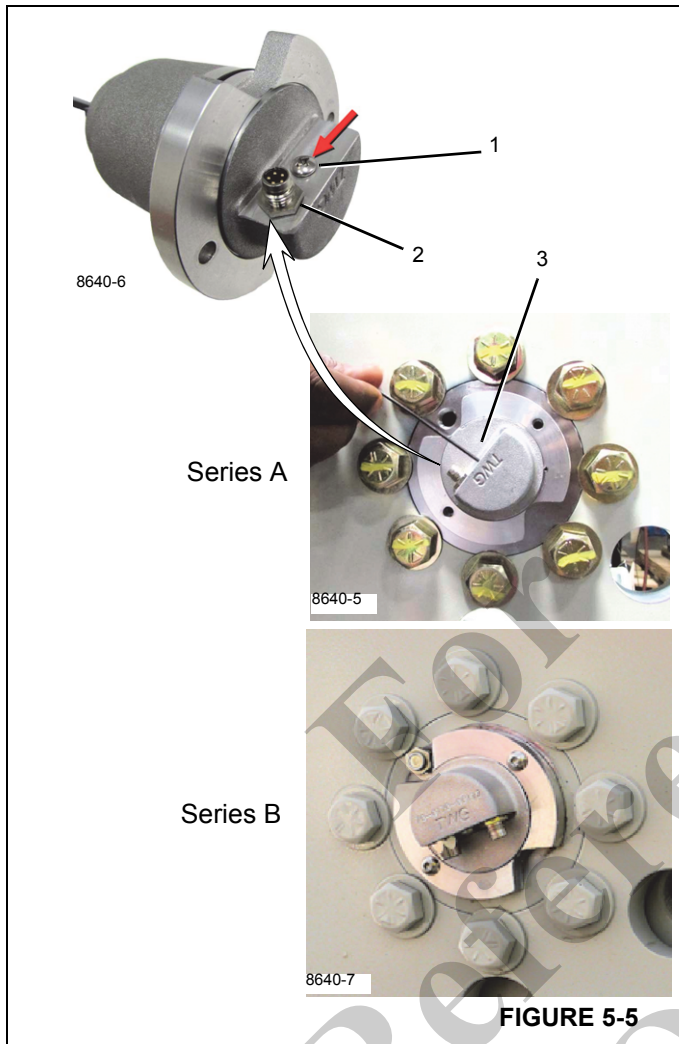

FIGURE 5-5
2. Remove power from the MWI by disconnecting the DRI cable (2, Figure 5-5).
3. Remove the sealed Hoist Monitoring System (HMS) programming button cover screw (1, Figure 5-5) on the DRI.
4. Push and gently hold the programming button (3, Figure 5-5) and return power to the MWI by reconnecting the DRI cable.
NOTE: Holding the button for longer than 15 seconds puts the HMS into Shipping Mode for Series A units. (See Figure 5-5). See Shipping Mode for more information.
NOTE: Failure to replace the programming screw (1, Figure 5-5) could effect the operation of the MWI.
3. Remove the programming button cover screw (1, Figure 5-5).